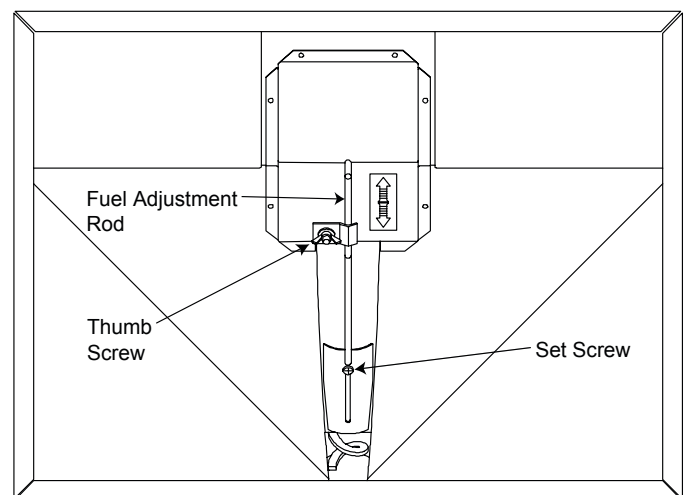

Figure 26.1
The feed adjustment control rod is factory set, and should be adequate for most fuels. The set screw is located at the bottom of the hopper and set loose at the factory so the fuel adjustment control rod will slide up and down by only loosening the thumb screw at the top. **See Figure 26.1.** Do not re-tighten bottom set screw.
1. Loosen the thumb screw. **Figure 26.1**
- c. The firepot floor plate must be fully closed when finished. **See Figure 26.1 on page 26.**